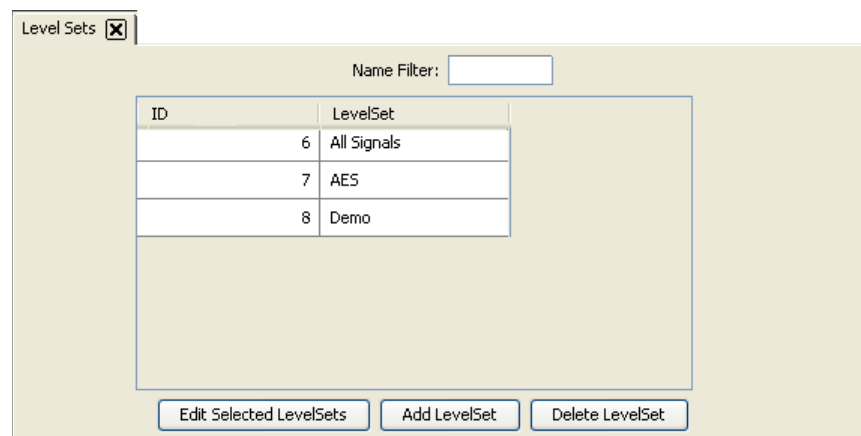

Figure 8-17. Level Sets Page
- 1 From the Navigation area, select the 'Configuration' pane and then 'Level Sets'. The 'Level Sets' page appears, as shown in Figure 8-17.